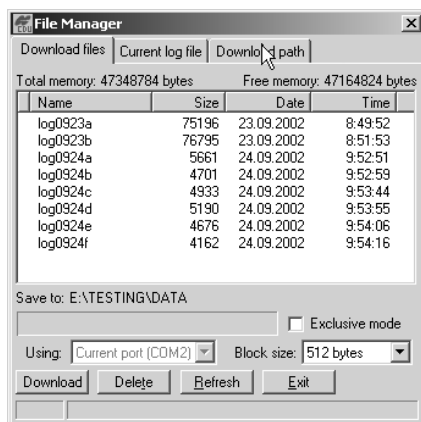

Figure 3-9. Find Files to Download
- Click the **Download path** tab on the *File Manager* dialog box (Figure 3-9).